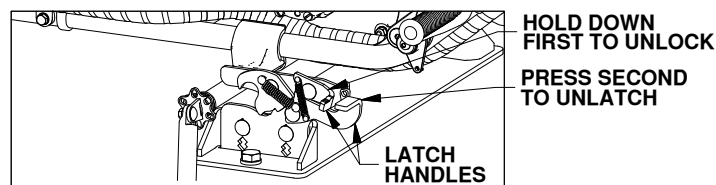

Figure D2: View looking down at Biker Bar.
4. **Removing bike from base:** Push down on the latch handles on both side of the base, see Figure D2. While mounted on bike, slowly back bike out of the base.